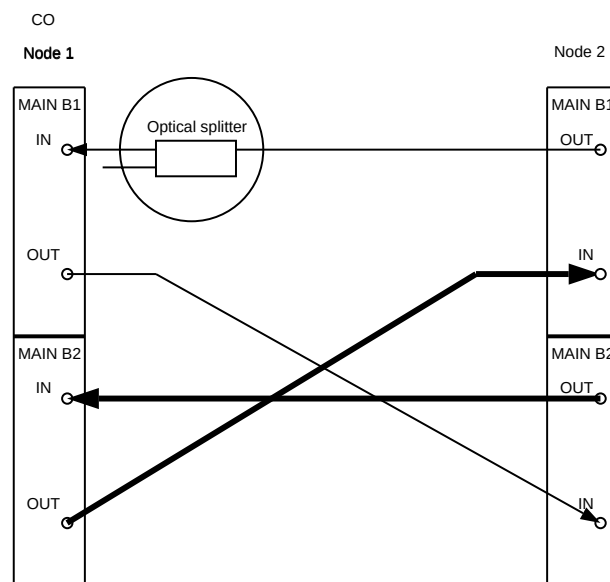

Figure 9. DDM-2000 OC-12 Point-to-Point Network to Ring Upgrade
15. Disconnect optical fiber from **MAIN-B-1 IN** at Node 1 and install optical splitter in **MAIN-B-1 IN** optical line as shown in Figure 9.